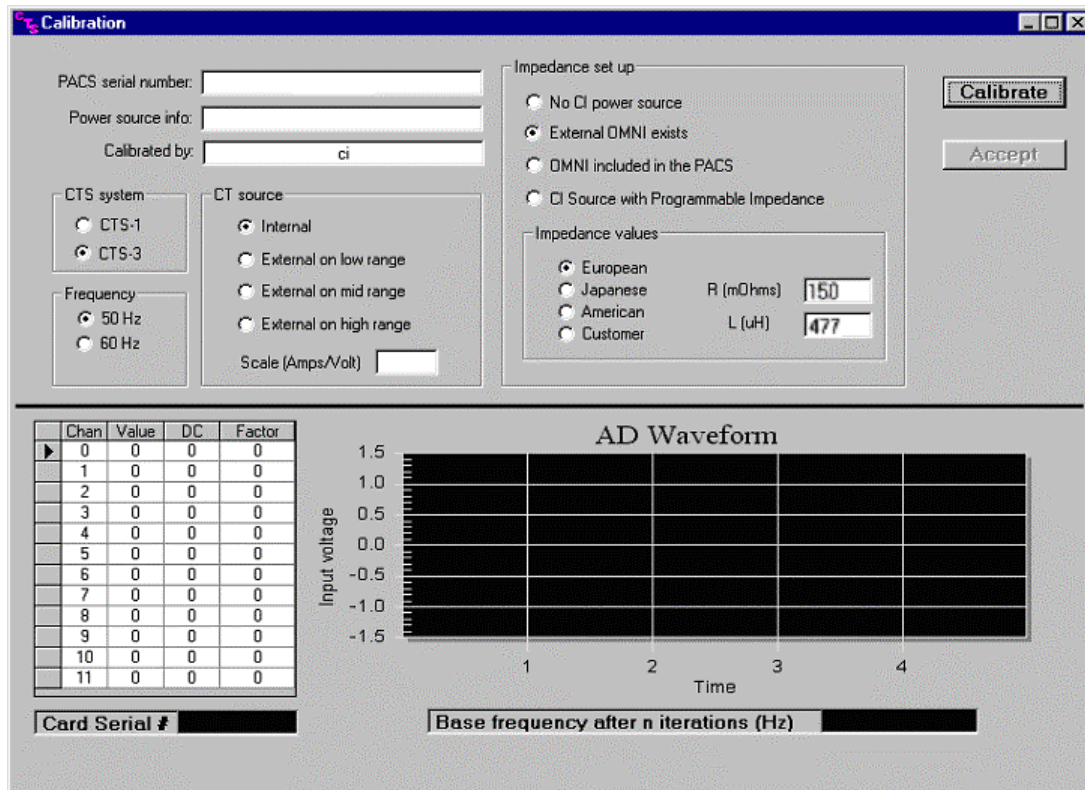

Figure 17-1 : MXCTSH Calibration Program Main Screen
1. Start the Calibration module located in the **Compliance Test System** Program group called **Calibration** (See Figure 17-1).